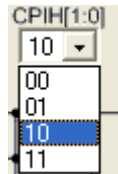

Figure 3-40
- (1) Click the network by mouse, CPIH can select to the specified network.
- (2) Click the network switch by mouse, CPIH can select to the specified network.
- (3) Click the mouse, a menu as Figure 3-40 will show up. Users can select the specified switch network.